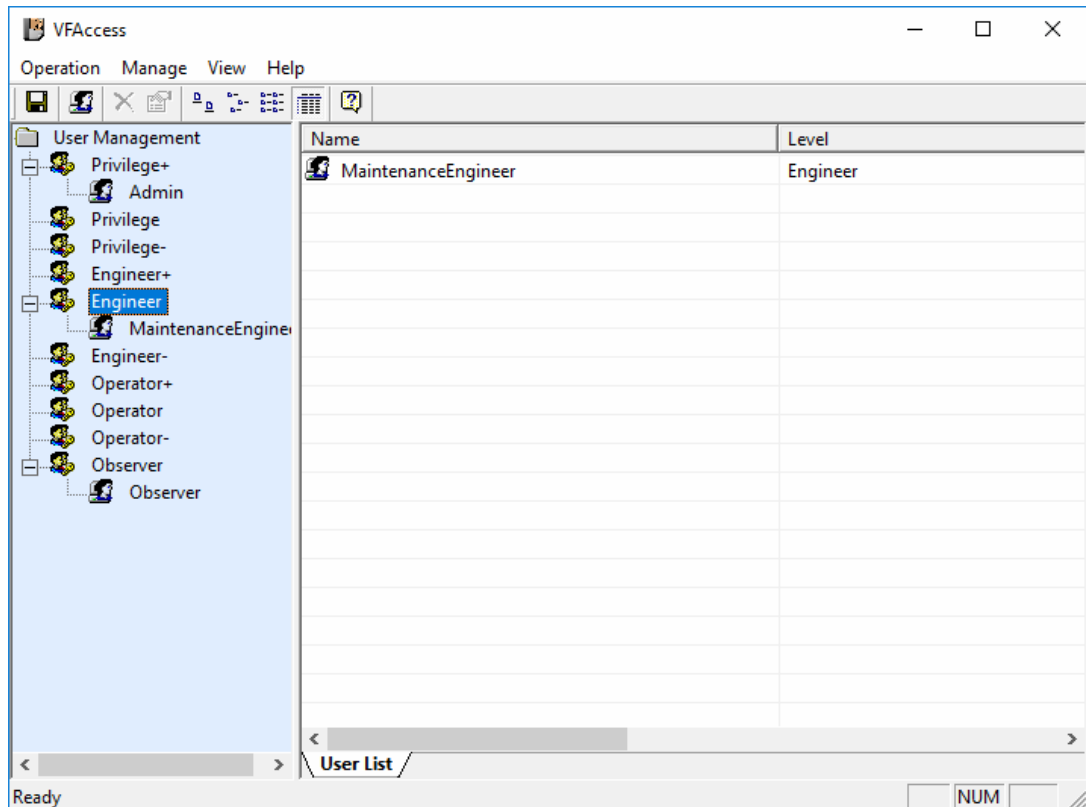

Figure 2-81 Complete creating a new user
4. Click the button "OK" and the user "MaintenanceEngineer" would appear under the engineer rank, as Figure 2-81: